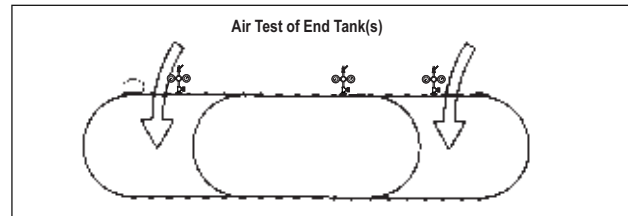

FIGURE 4-7
4.6.5. Pressurize the end tank(s). (See SECTION 3.4. and FIGURE 4-7.)
4.7.7. Pressurize the end tank(s). (See SECTION 3.4. and FIGURE 4-7.)